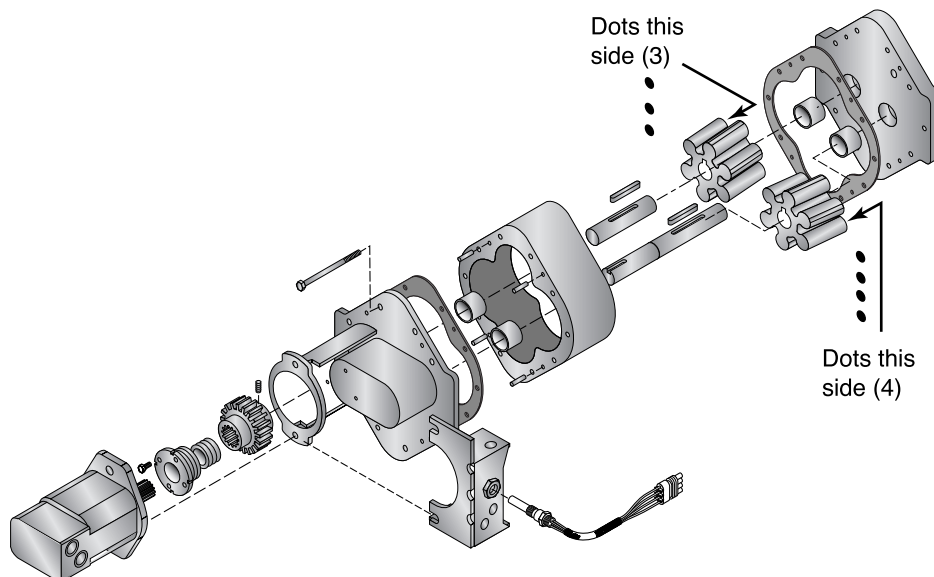

Figure 27. Etnyre Asphalt Pump
1. Remove 20 capscrews from perimeter of pump end plate (see Figure 27).
Each impeller gear set uses a series of dots on the gear faces to indicate position of the gears within the pump. Refer to Figure 27 for proper positioning of the gears. The dots must face away from the divider plate (towards the ends of the pump). Install the impellers in numerical order.